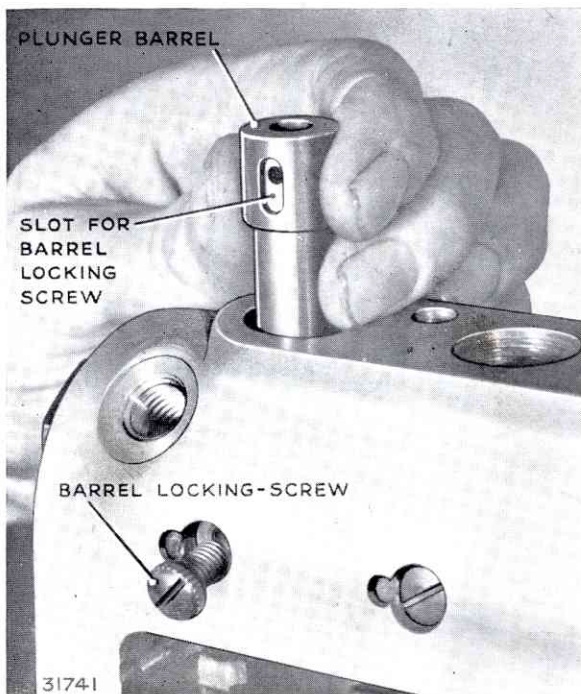

FIG. 74. REMOVING OR REPLACING PLUNGER BARREL
10. To remove the pump barrel, unscrew the locking screw situated above the inspection cover-plate and push the barrel from below with a fibre or soft brass drift (Fig. 74).
1. Fit the plunger barrel carefully, observing that the slot in it is opposite the hole for the locking screw (Fig. 74). Carefully screw in the locking screw, with new joint, until it locates with the slotted recess in the barrel, when it can be tightened. If correctly engaged, it will prevent the barrel from rotating whilst permitting a limited vertical movement.